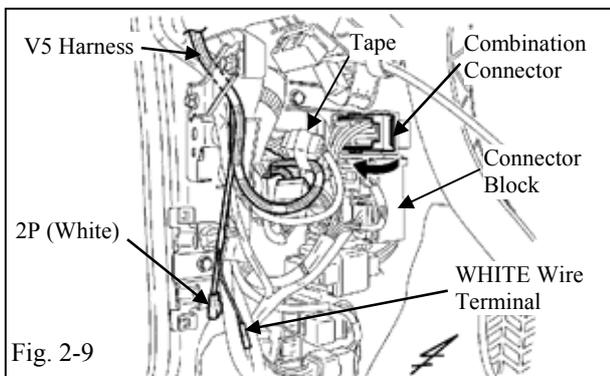

Fig. 2-9
- (l) Locate and disconnect the combination connector from the connector block in the driver side cowl area. (Fig. 2-9)